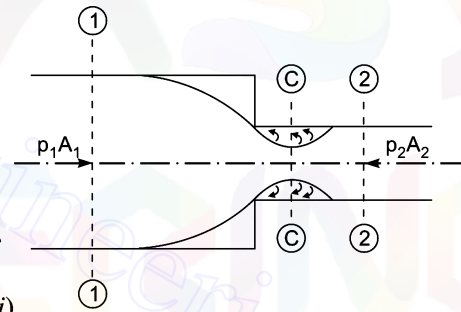

Fig. 11.2 Sudden contraction.
**11.4.2 Loss of Head due to Sudden Contraction.** Consider a liquid flowing in a pipe which has a sudden contraction in area as shown in Fig. 11.2. Consider two sections 1-1 and 2-2 before and after contraction. As the liquid flows from large pipe to smaller pipe, the area of flow goes on decreasing and becomes minimum at a section C-C as shown in Fig. 11.2. This section C-C is called Vena-contracta. After section C-C, a sudden enlargement of the area takes place. The loss of head due to sudden contraction is actually due to sudden enlargement from Vena-contracta to smaller pipe.